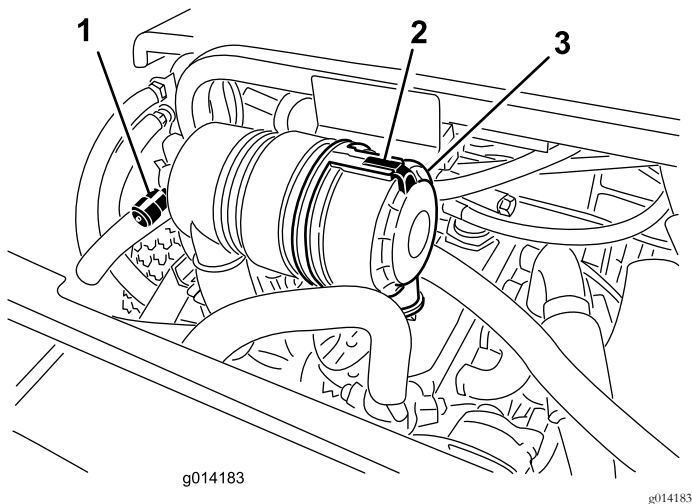

Figure 34
both the upper and lower king-pin bushings. You should see grease purging out of both the top and the bottom of the axle casting/bushing assembly areas of all 4 kingpin assemblies (Figure 34).
Service the air-cleaner filter only when the service indicator (Figure 34) requires it. Changing the air filter before it is necessary only increases the chance of dirt entering the engine when you remove the filter.
1. Release the latch securing the air-cleaner cover to the air-cleaner body (Figure 34).